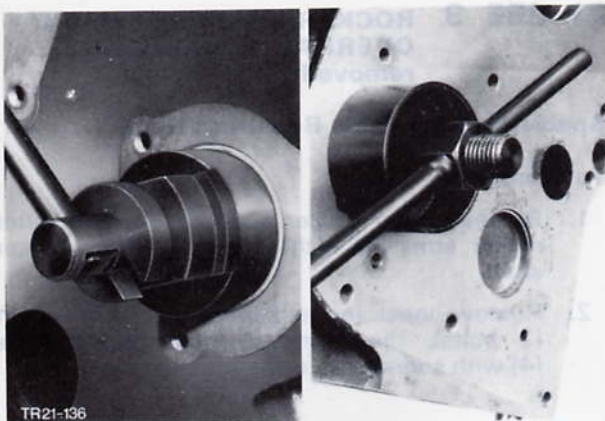

Fig. 125. Withdraw bearing bush No. 5 from front using Special Tool 21-022-01/02
1. From front of engine remove bushes Nos. 5, 4, 3 and 2 using Special Tool 21-022 and associated adaptors 21-022-01 and 21-022-02, Fig. 125.